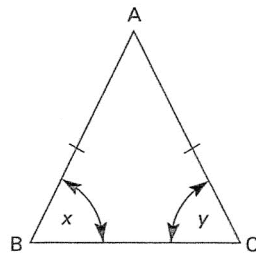

Figure 12
- d) An **isosceles** triangle (Figure 12) has two sides, AB and AC, that are equal in length and two angles,  $x$  and  $y$ , that are equal. The two equal angles lie opposite the equal sides. A single line (sometimes a double line) is drawn through the two sides to show they are equal.